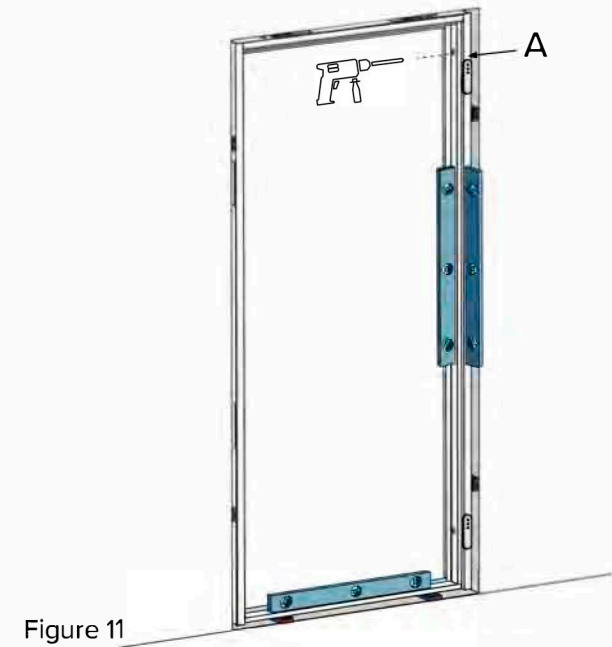

Figure 11
3.6. Drill a $\text{Ø}10$ mm 120-130 mm deep hole through the upper mounting hole on the hinge side of the frame (A) (figure 11).